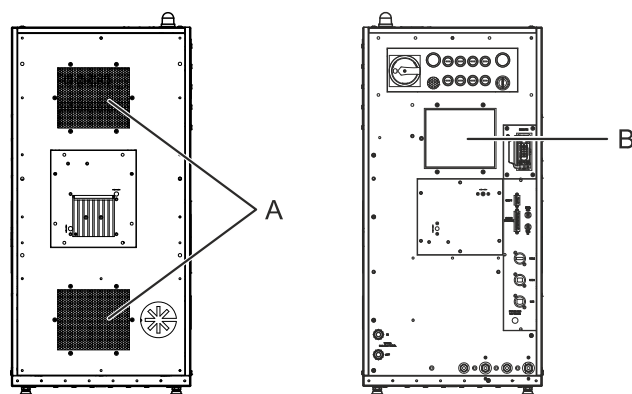

Figure 19: Location of air intake and exhaust
The COMPex laser device has two air intakes on the beam exit side (see Figure 19, A) and a central exhaust outlet with moderate flow rate on the connection side (B).